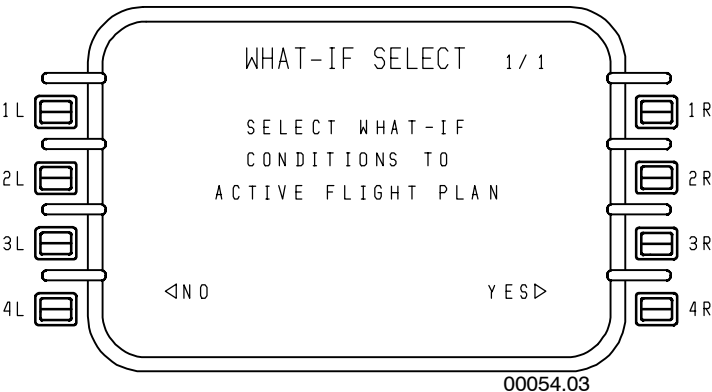

Figure 5-44
There are three WHAT-IF DATA pages. The first page is similar to the PERF DATA 1/4 page. The other two pages are similar to the two CRUISE pages. On all three pages, the WHAT-IF SEL prompt at 4R displays a page that is used to select the WHAT-IF conditions to the active PERFORMANCE INIT. This is shown in Figure 5-44. The 4L prompt accesses back to the WHAT-IF INIT page.
- **WHAT-IF SELECT 1/1** - Figure 5-44 has the option to activate the WHAT-IF initialization. If YES is selected, the PERFORMANCE INIT is set equal to the WHAT-IF INIT. Subsequently, the PERF DATA is recomputed. If NO is selected, the display returns to the WHAT-IF DATA with no changes made.